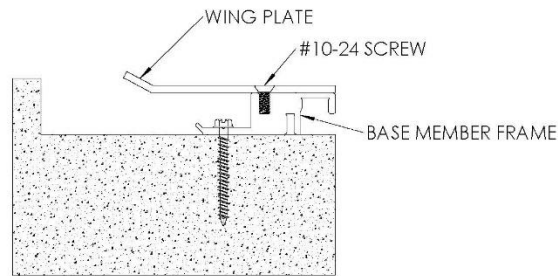

FIGURE 3
3. Reinstall the wing plate to the base member frame with the #10-24 screw. *Note: This step not necessary for the 2", 4" & 6" sizes. See Figure 3*